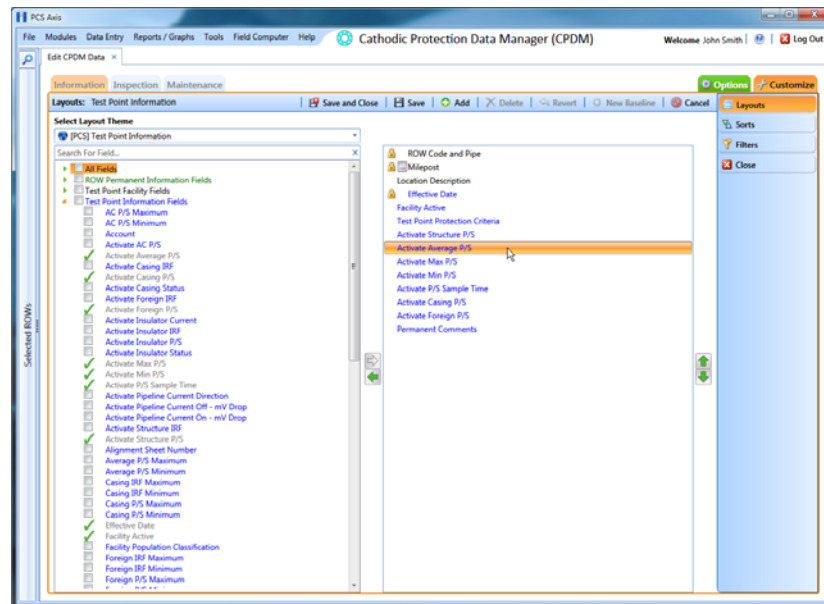

Figure 7-13. Layouts
- 4 Click the **Customize** tab  to open the *Layouts* page (Figure 7-13, page 297).